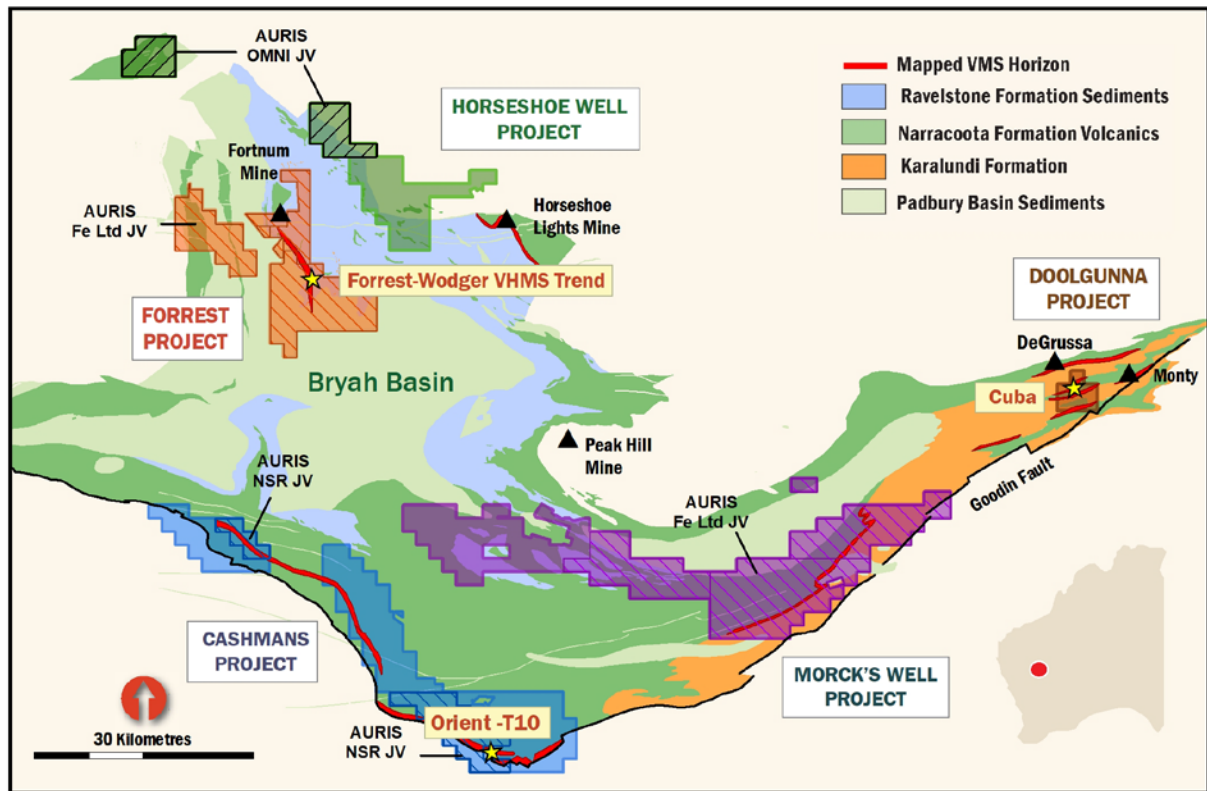

Figure 5: Auris' copper-gold exploration and mining portfolio with highly prospective target locations.
Auris Minerals Limited (ASX:AUR) is pleased to provide an update on the latest drilling at the Company's Forrest Project¹ (ASX:AUR, Auris 80%; ASX:FEL, Fe Ltd 20%), located in Western Australia's Bryah Basin (Figure 5).
1. The Forrest Project tenements (Figure 5) have the following outside interests: